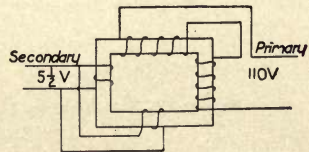

FIGURE 220.—110 VOLTS TRANSFORMED TO 5 1/2 VOLTS.
3. If the primaries are connected in series and the secondaries in parallel, the voltage will be $\frac{1}{20} \times 110 = 5\frac{1}{2}$. (Figure 220.)